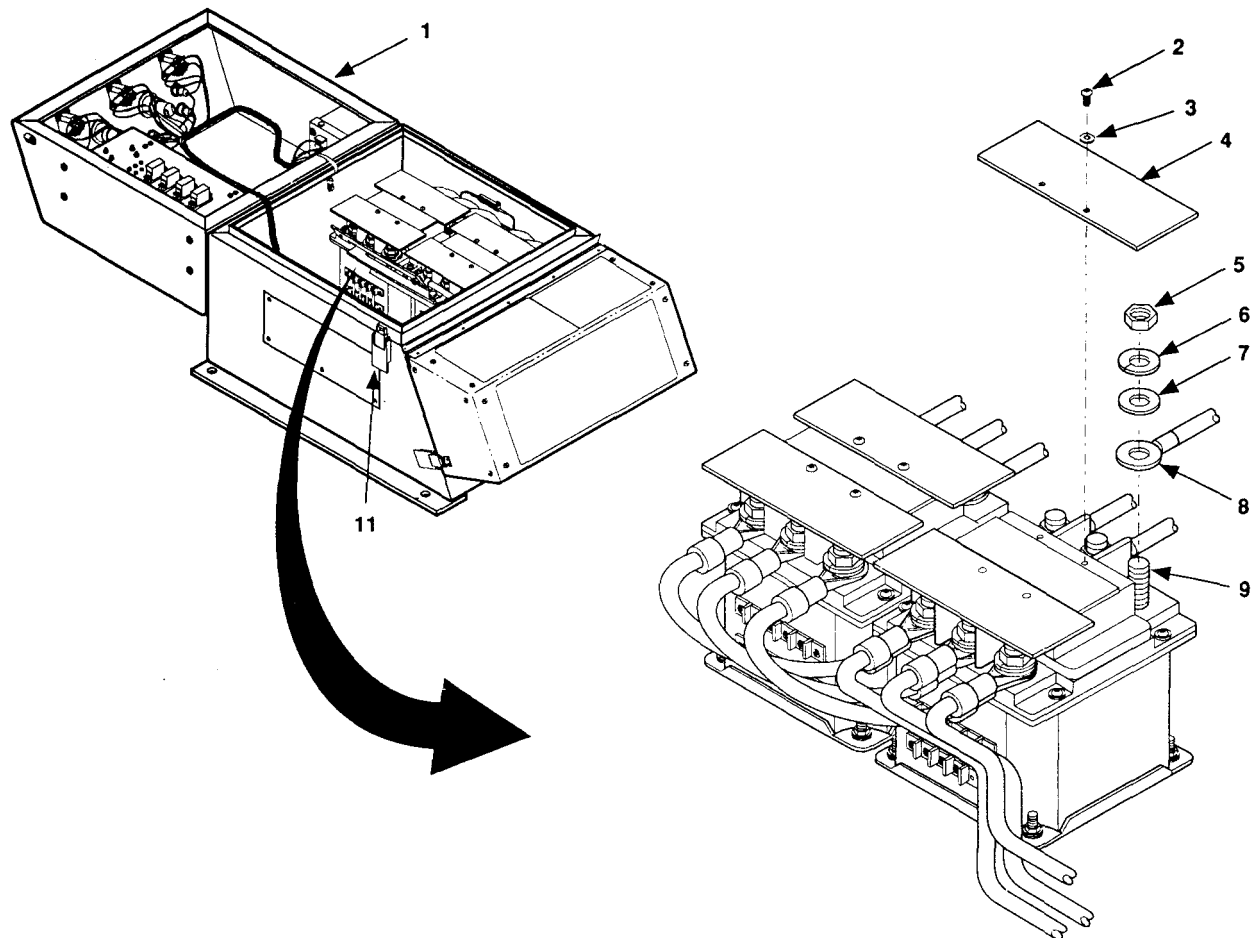
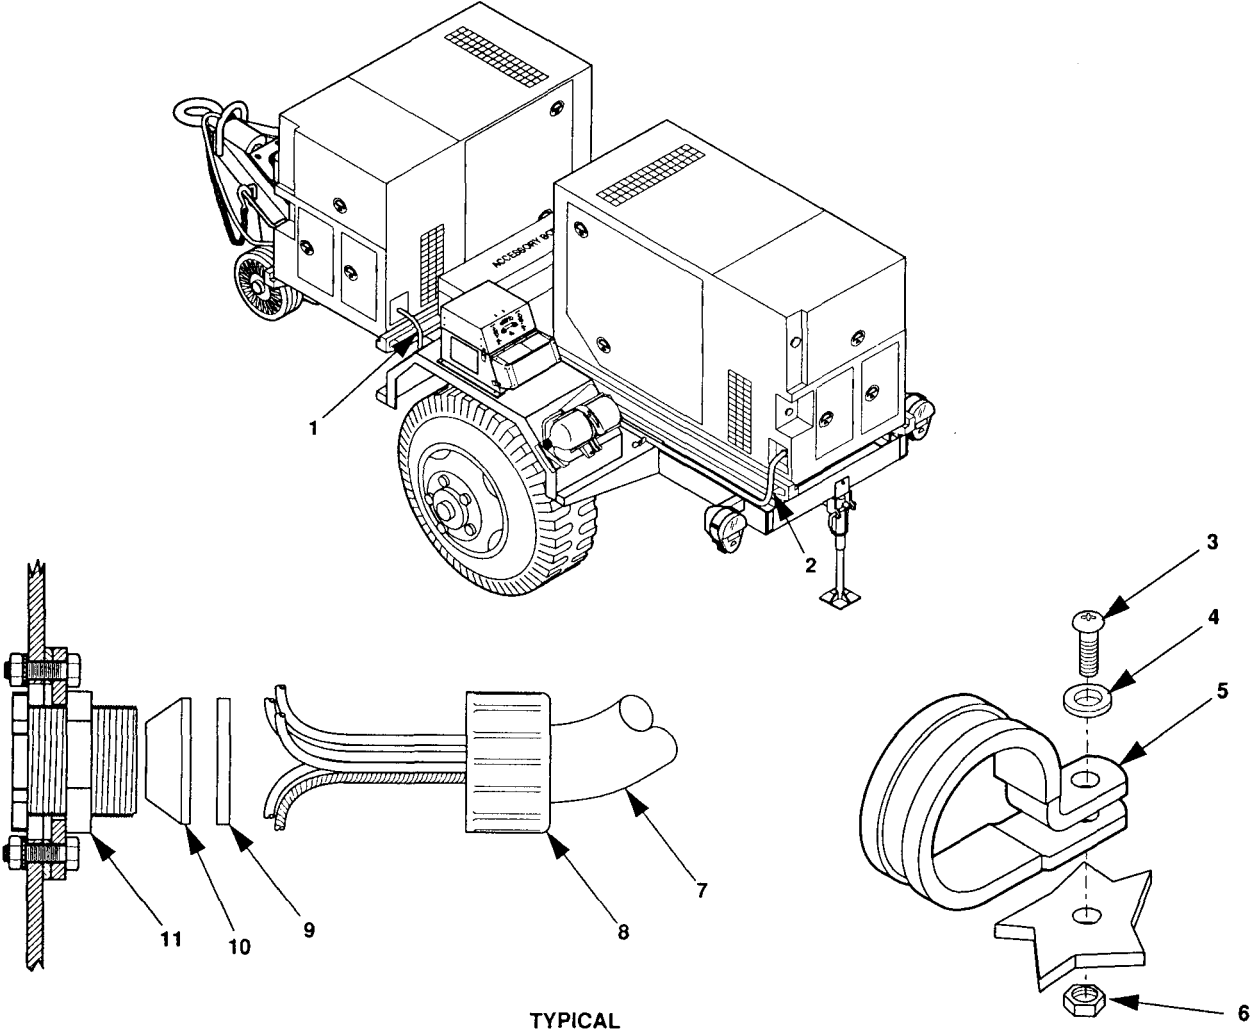
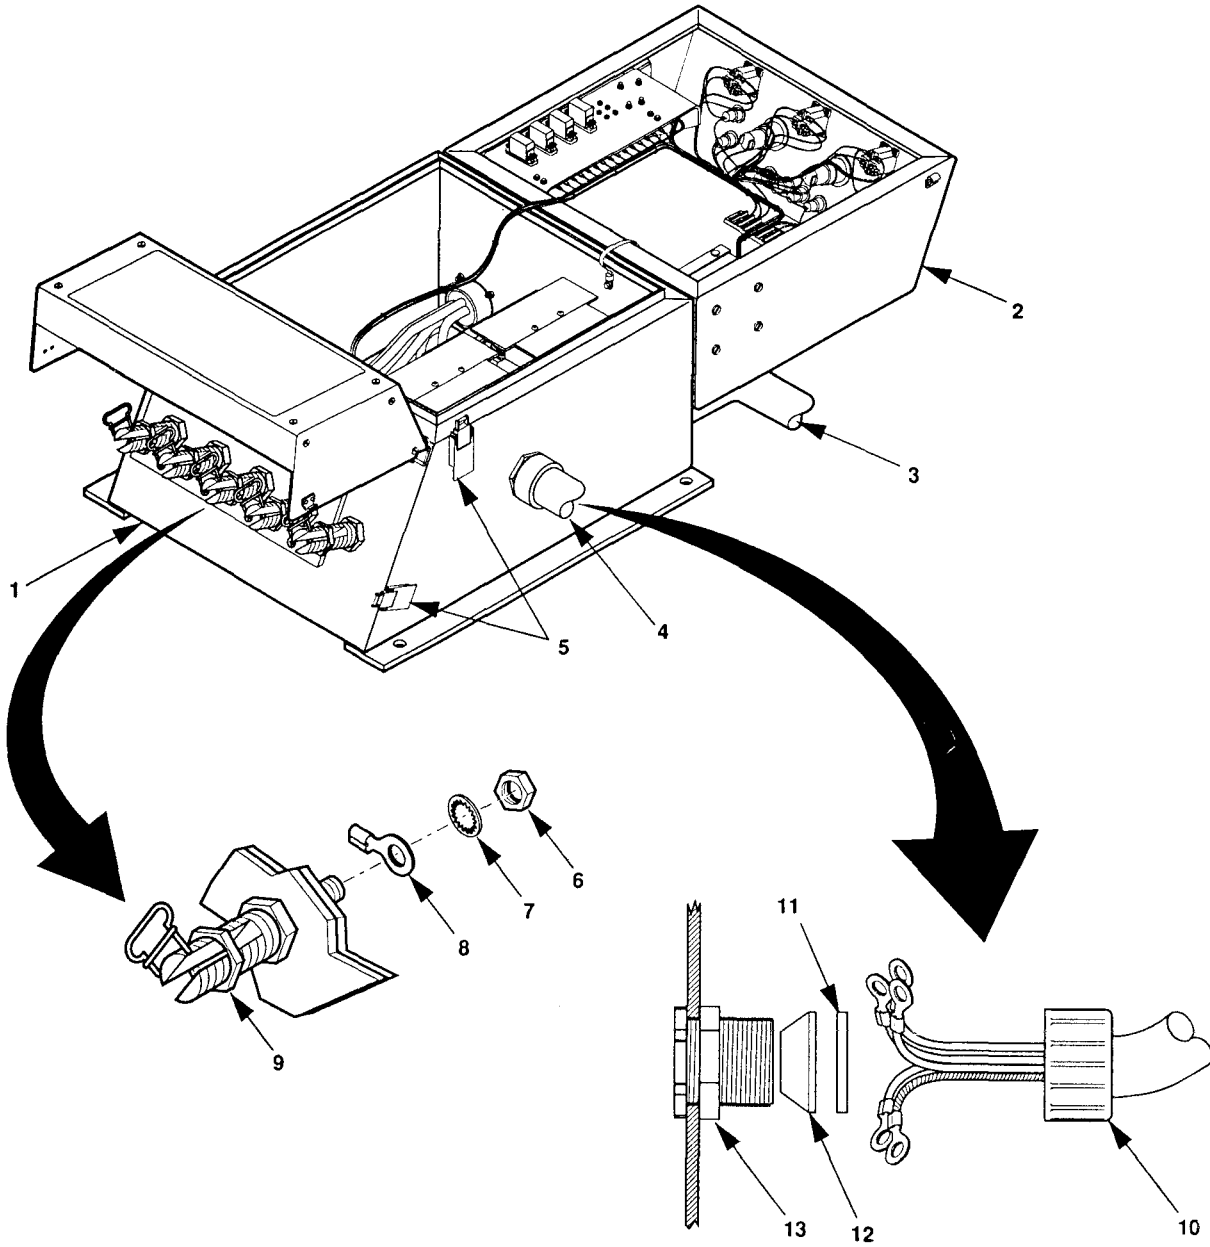

Figure 4-10. Power Cable Connections to Switch Box Contactors.
Figure 4-11. Disconnect Power Cable from Generator Set.
Figure 4-12. Disconnect Power Cable From Switch Box Terminals.
- a. Remove stuffing tube compression nut (8, figure 4-11) from stuffing tube body (11).
- b. Pull power cable (1 or 2) through stuffing tube until ends of power cable are free of stuffing tube body (11).
- c. Remove washer (9), seal (10), and stuffing tube compression nut (8) from power cable (1 or 2). Place items back on stuffing tube and tighten.
- a. Release clamping catches (11, figure 4-10) and open switch box cover (1).
- b. Remove two screws (2) and lock washers (3) from contactor terminal shield (4) of contactor associated with power cable being removed.
- c. Remove contactor terminal shield (4).
- d. Remove nuts (5), lock washers (6), and flat washers (7) from contactor terminals (9).
- e. Lift terminal leads (8) from contactor terminals (9). Remove only the terminal leads associated with electrical leads of power cable being removed. If necessary to remove other terminal leads to access those for power cable being disconnected, reinstall other terminal leads onto contactor terminals (9).
- f. Install flat washers (7), lock washers (6), and terminal nuts (5) on contactor terminals (9).
- g. Remove hex nuts (6, figure 4-12) and internal tooth washers (7) from ground and L0 terminals (9) of switch box.
- h. Remove only the wire associated with the power cable being replaced. If necessary to remove other terminal leads to access those for power cable, reinstall other terminal leads on terminal (9).
- i. Place internal tooth washers (7) over the end of terminals (9) and loosely install the hex nuts (6).
- j. Remove stuffing tube compression nut (10) from stuffing tube body (13).
- k. Pull power cable (3 or 4) through stuffing tube until ends of power cable are free of stuffing tube body (13).
- l. Remove washer (11), seal (12), and stuffing tube compression nut (10) from power cable (3 or 4). Place items back on stuffing tube and tighten.
- a. Remove self-locking nuts (6, figure 4-11), screws (3), and flat washers (4) securing clamps (5) to trailer. Remove cable (3 or 4).
- b. Remove clamps (5) off power cable (3 or 4).
1. Install stuffing tube compression nut (10, figure 4-12), washer (11), and seal (12) on end of power cable (3 or 4) having leads with terminal lugs.
2. Insert terminal lug end of power cable (3 or 4) into stuffing tube assembly (13) and slide forward until end of power cable outer covering is visible inside switchbox (1).
3. Slide seal (12), washer (11), and stuffing tube compression nut (10) forward and tighten compression nut.
4. Remove hex nut (6) and internal tooth washer (7) from load terminal L0 (9) and install lead marked L0.
5. Install internal tooth washer (7) and hex nut (6). Tighten hex nut.
7. Remove nuts (5, figure 4-10), lock washers (6), and flat washers (7) from contactor terminal (9) of contactor associated with power cable being installed.
9. Install flat washers (7), lock washers (6), and nuts (5) on contactor terminals (9). Tighten nuts.
10. Install contactor terminal shield (4), lock washers (3), and screws (2).
11. Close switch box cover (1) and secure with clamping catches (11).
14. Place clamps (5, figure 4-11) on replacement power cable (3 or 4) and existing ground wire going from switch box ground terminal and trailer ground stud, and install flat washers (4), screws (3), and self-locking nuts (6).